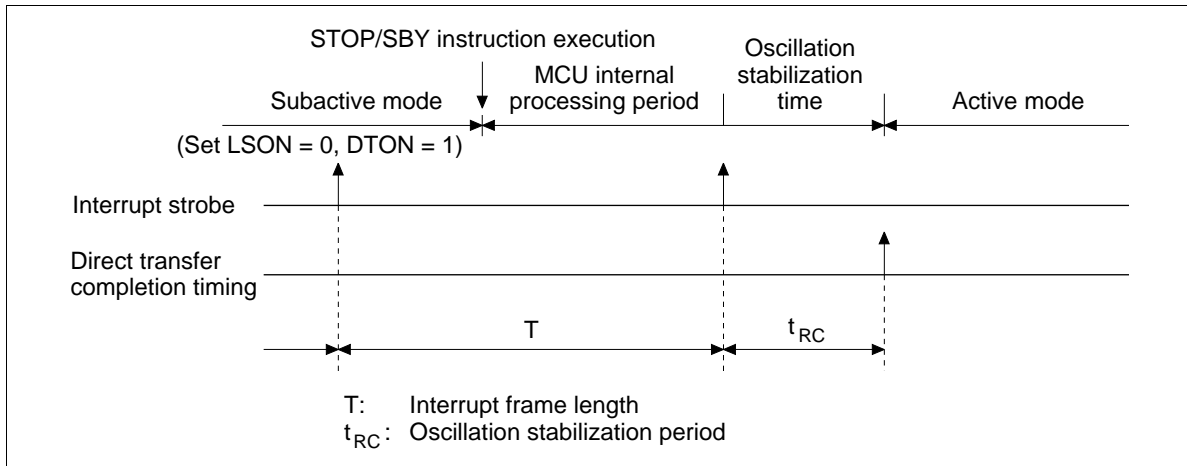

Figure 19 Direct Transition Timing
3. The MCU automatically enters active mode from subactive mode after waiting for the MCU internal processing time and oscillation stabilization time (figure 19).